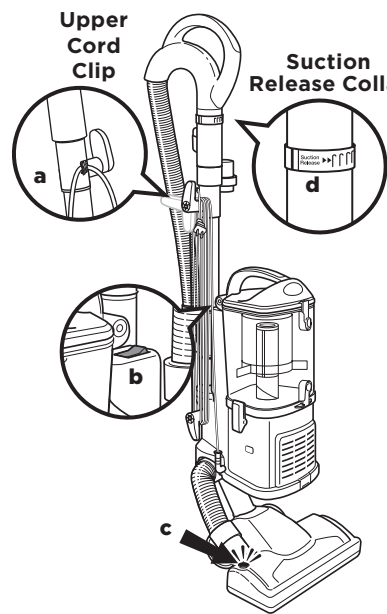

Fig. 11
- 2 Secure the power cord by wrapping it around the cord clips (a). (Fig. 11)
- 3 Press the selector switch (b) to Setting I to vacuum bare floors (straight suction only) or to Setting II to engage the brushroll (for vacuuming carpets and rugs). (Fig. 11)
Brushroll Indicator Light: The brushroll indicator light (c) will illuminate green when the brushroll is on, or red if there is a blockage or jam. (Fig. 11) This feature is designed to protect the brushroll. See Checking for Blockages.
- 5 Increase or decrease suction power by adjusting the suction release collar (d) on the handle. (Fig. 11) If the vacuum seems difficult to push or pull or if it is lifting up area rugs, reduce suction by rotating the collar counterclockwise. To increase suction and to vacuum floors, rotate the collar clockwise.